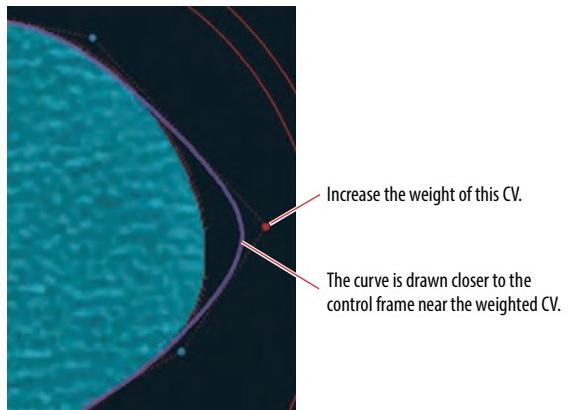

FIGURE 5.14 Adjusting the weight of a CV
10. Type **2** and press Enter (see Figure 5.14). The spline will get closer to the red CV and its control frame. Type **.5** and press Enter again; the curve moves farther away from the control frame. Type a value appropriate to your particular situation and press Enter. We set a weight of 0.75 for the CV shown in Figure 5.14 to push it away from the control frame and more closely match the shape of the lake.